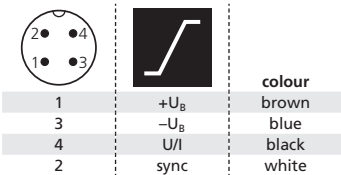

Fig. 2: Pin assignment with view onto sensor plug and colour coding of the microsonic connection cable
- ➔ Connect a connection cable to the M8 device plug (see Fig. 2).